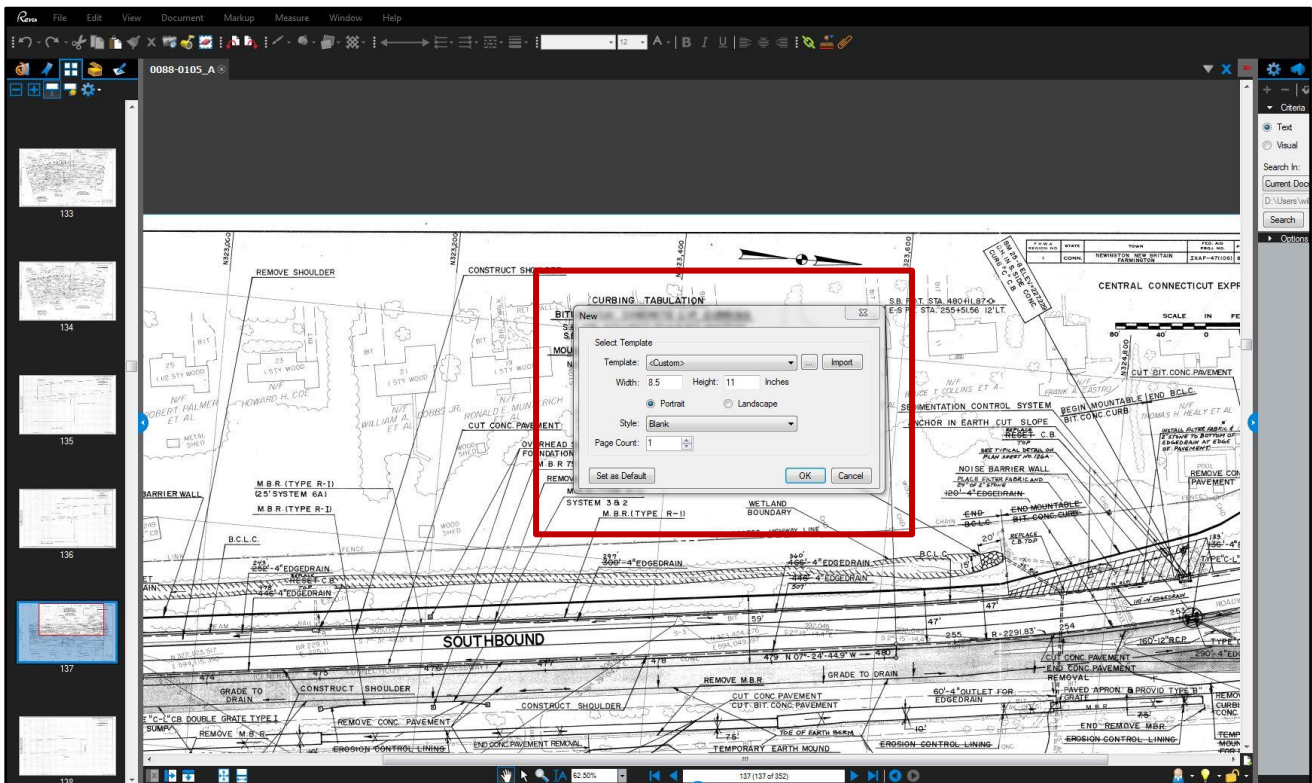

Figure 19. Viewing record plans in Bluebeam.
3. Go to File > New. Select OK (show in Figure 19, below) and a new Document1 tab will open under the top toolbar.